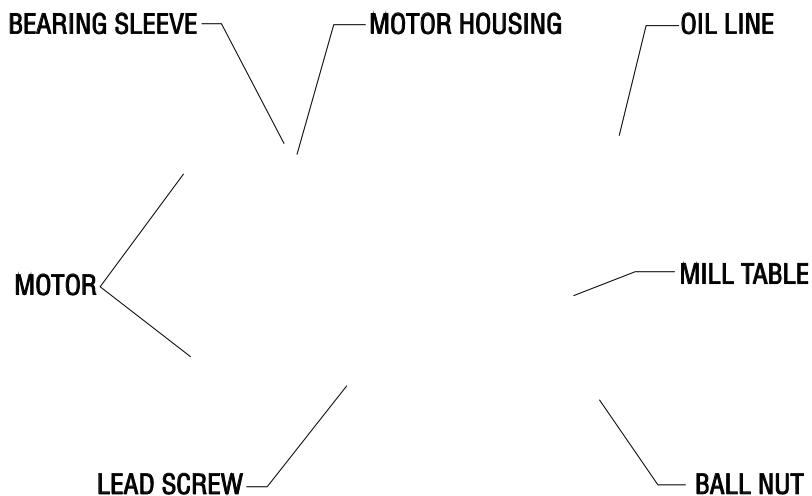

Fig. 10-2 Lead screw assembly.
3. Visually inspect the flex plates to ensure that they are parallel to the coupling halves, and that the slits in the coupling and clamp ring are in alignment (See Fig. 10-2). Tighten the 10-32 x ½" SHCS on the motor coupling at the lead screw. (Place a drop of blue Loctite® on the screw before inserting.)